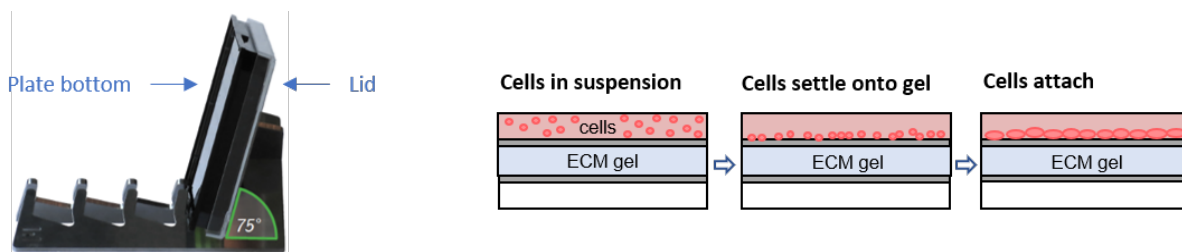

Figure 6: Incubate OrganoPlate® on the side to allow cells to attach to the ECM gel
8. Place the OrganoPlate® on its side in the MIMETAS plate stand for 3-4 hours in the incubator to allow the cells in the top channel to settle onto the ECM gel and attach (see figure 6).